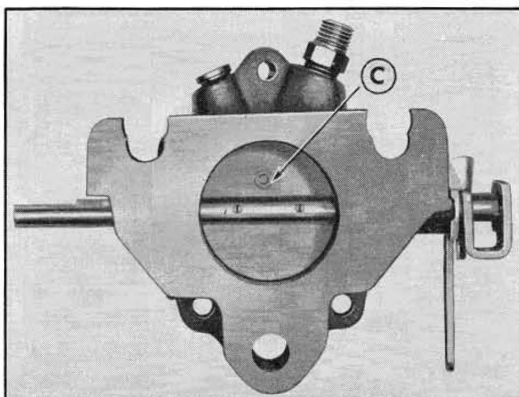

Fig. 8
10. Place throttle valve on shaft with letter "C" stamped on the valve facing away from the carburetor body (fig. 8).